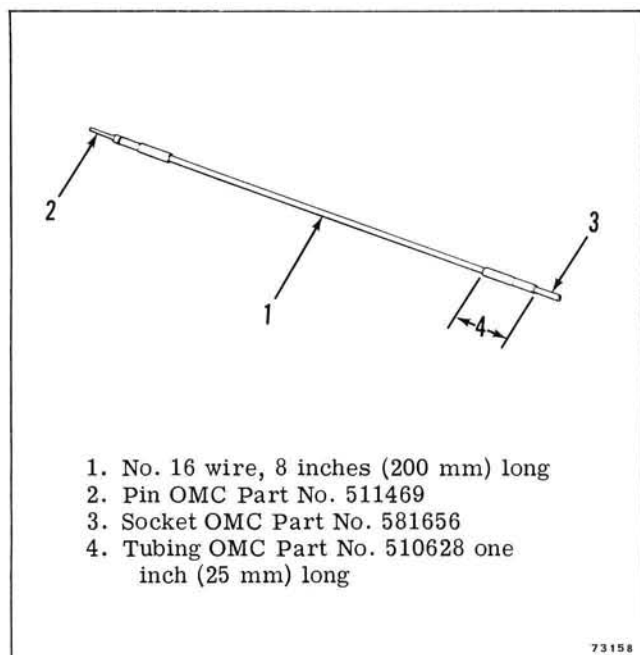

Figure 4-7. Jumper Wires
d. Jumper Wires (4 required). Jumper leads can be made as shown in Figure 4-7.